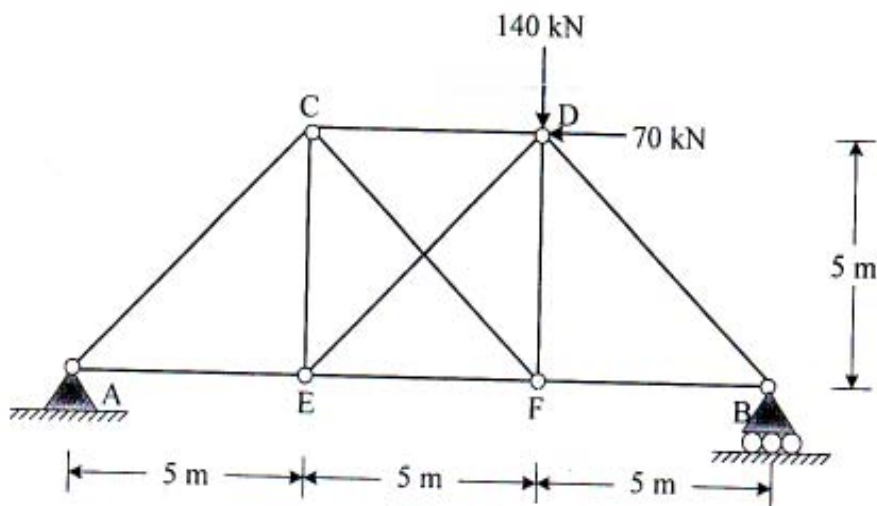

Fig. 6
6. The pin jointed truss shown in fig. 6 supports vertical and horizontal loads of 140 kN and 70 kN respectively at the joint D. The ratio of length/area for all members is the same. Determine the forces in all members.